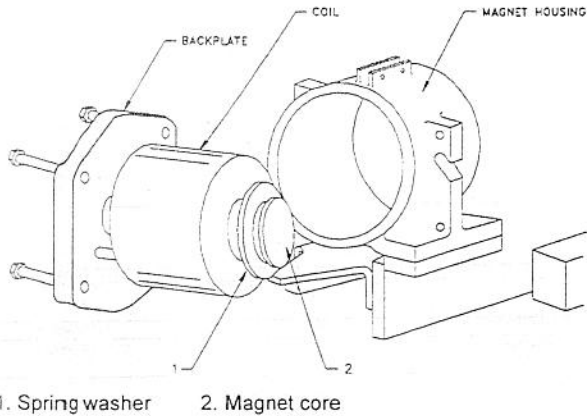

Figure 4. Coil Removal
4. Remove magnet core (Figure 4, item 2) and spring washer (1) from magnet housing by removing two nuts on opposite side of backplate.
5. Slide new coil into the core, ensuring that spring washer (1) is inserted between the lip of the core and the coil.